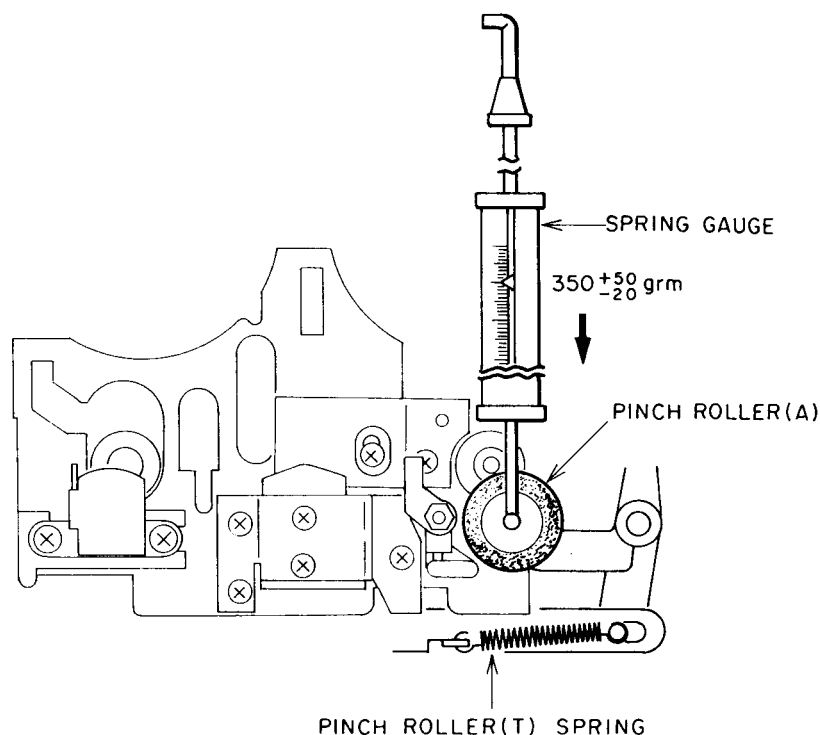

Fig. 5
1. PINCH ROLLER PRESSURE MEASUREMENT (Refer to Fig. 5)